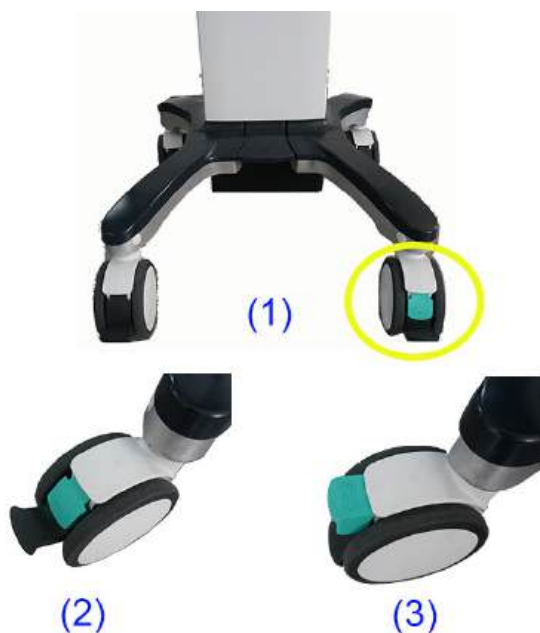

Figure 3-159. Green brake pedal
When all the four wheels are in the same orientation as (1) in Figure 3-159 on page 3-255, you can depress the green brake pedal, and then it is easier for you to move it.